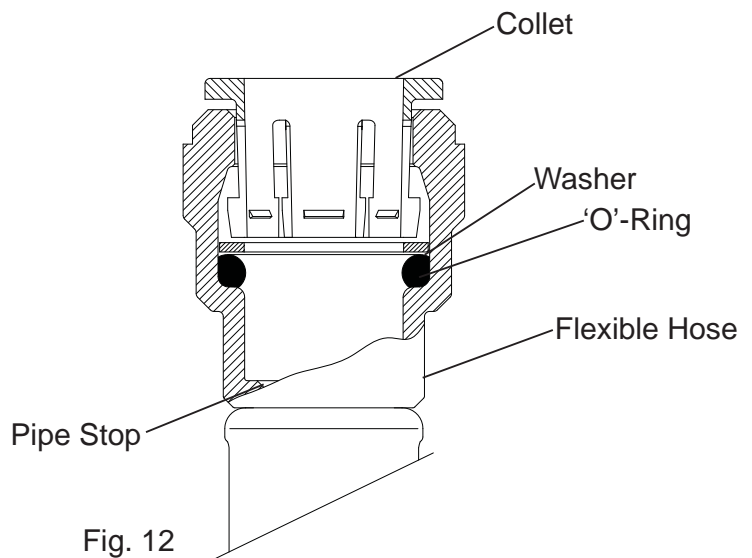

Fig. 12
3. Check in the mouth of the fitting that the 'O'-ring, nylon washer and collet are in position as shown in Fig. 12.